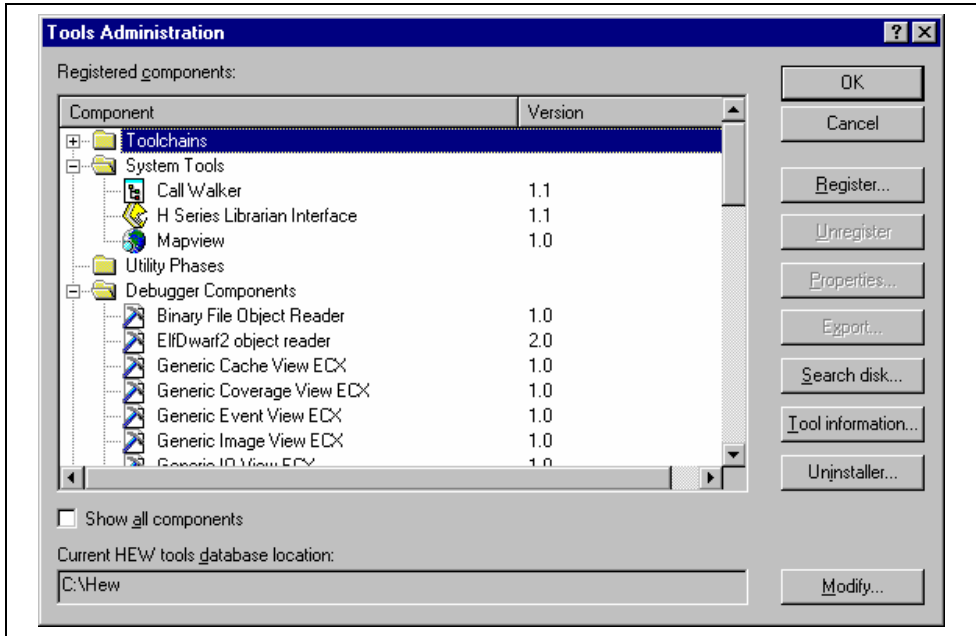
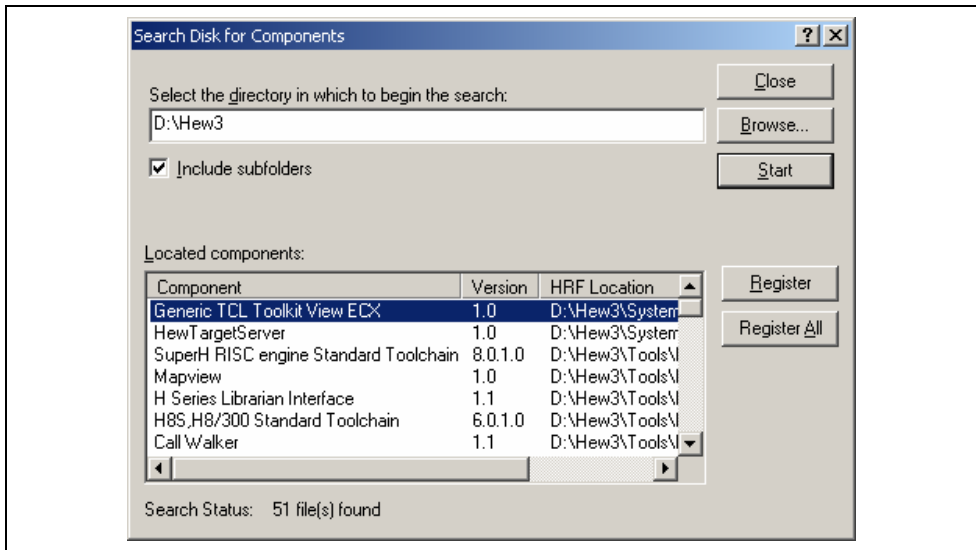

Figure 5.1: Tools Administration Dialog
Figure 5.3: Search Disk for Components Dialog
You control the components, which can be used by the High-performance Embedded Workshop via the “Tools Administration” dialog (figure 5.1), which is invoked via [Tools->Administration...]. Modification of the “Tools Administration” dialog box is only possible when no workspace is open, while only reference is possible when a workspace is open.
In order to use a component with HEW it must first be registered. The “Tools Administration” dialog (figure 5.1) shows all currently registered components. To access it, ensure no workspaces are open and then select **[Tools->Administration...]**. If you attempt to access tools administration when there is a workspace open the tools administration dialog is opened but cannot be modified. When HEW is installed by default any new tools are automatically registered.
1. Click the “Search Disk...” button on the “Tools Administration” dialog (figure 5.1). The “Search Disk for Components” dialog will be displayed (figure 5.3).